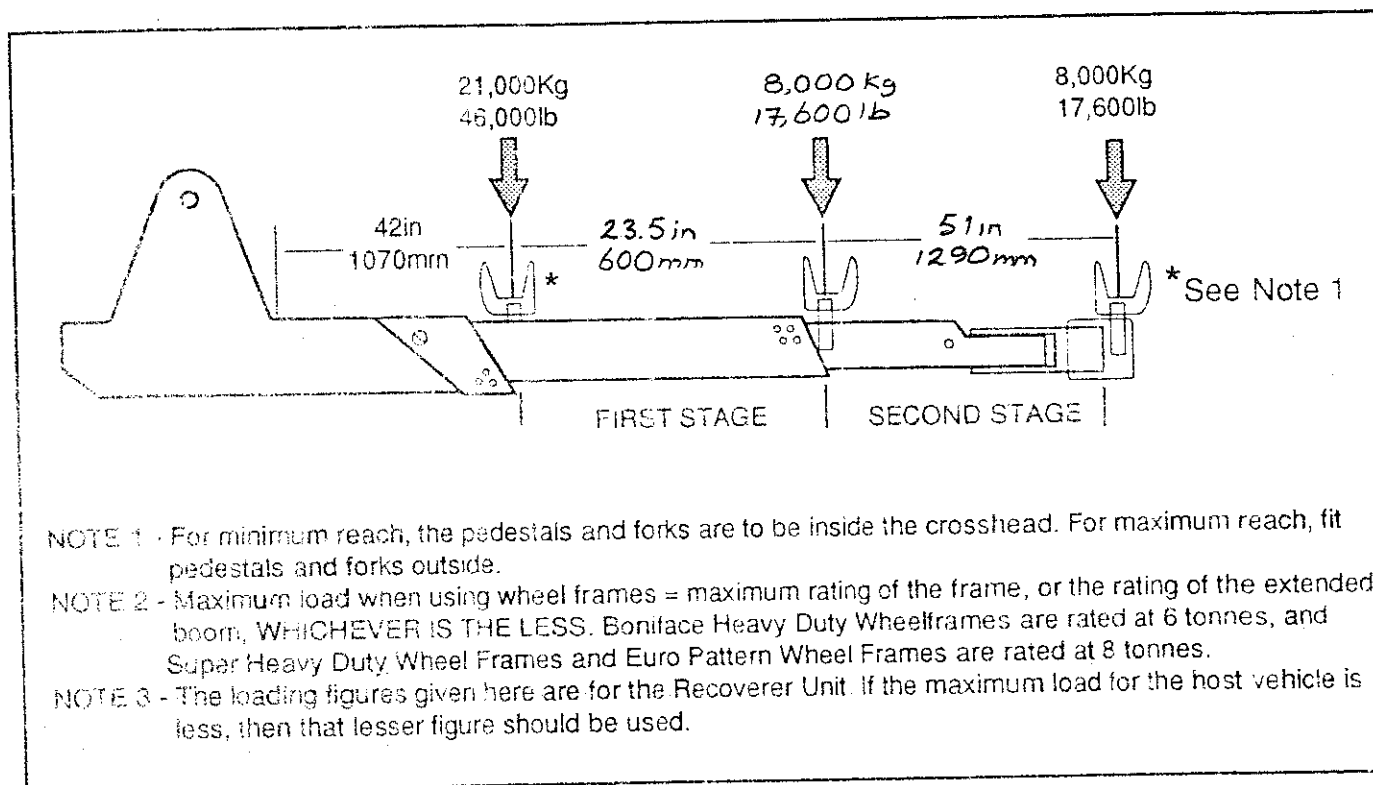

Figure 6 - Performance Figures for the Type E Extending Boom
3. This recovery unit has been designed for use in all normal vehicle recovery situations, i.e. winch hauling, suspend towing and flat towing. The load limits on these aspects are given on Pages 8 (Figures 6 & 7). However the size and weight of the chassis upon which it is mounted may limit the actual loads which can be lifted or towed. The installation of extra leaf springs is recommended, and if a choice is available, a higher rated chassis should be used in order to allow an increased payload.
**2.1.13**      Using the extend control, operate the extendible boom and check for leaks. Ensure that the extension is that specified in Figure 6 or 7 of this book.
- 2.2.2      Without aiming to overload the Interstater or the vehicle it is fitted to, (See Figure 6 or 7 for loadings at full hydraulic extension), chose another vehicle which can be lifted by the unit, and prepare to lift as described in Part 3 of this book.